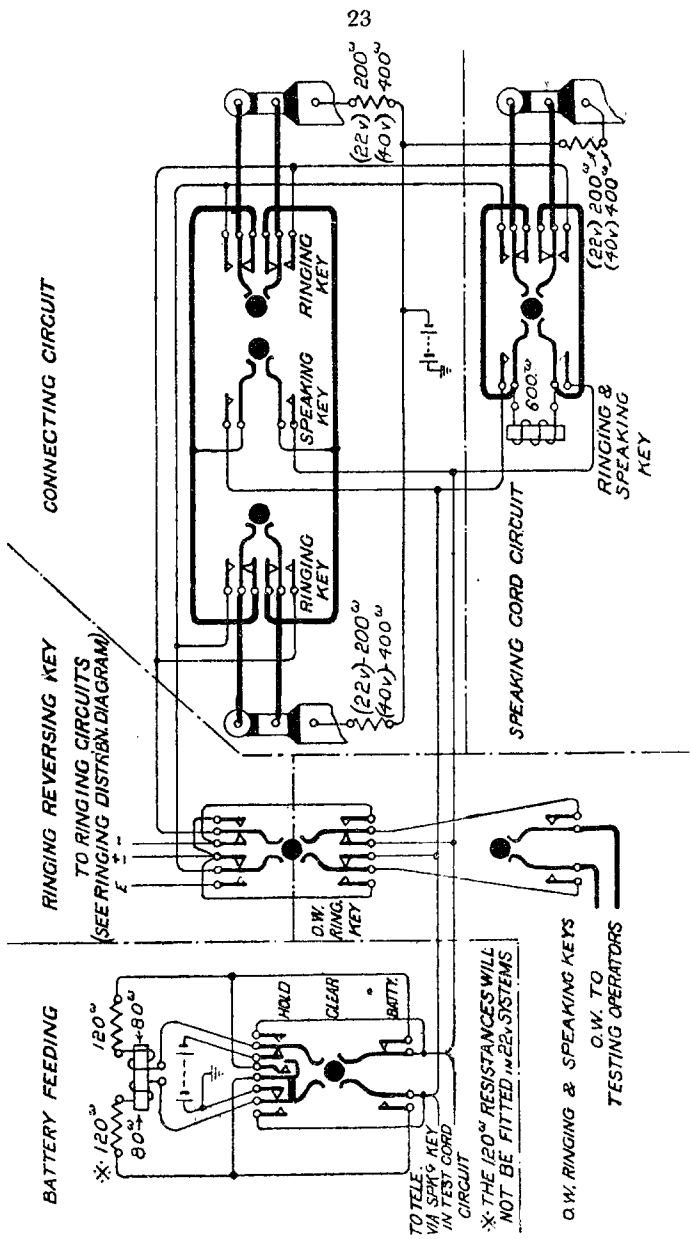

Fig. 10.
**Direct Exchange Line.**—This circuit, which terminates on subscribers' calling equipment at an "A" position, is an ordinary exchange connection and is used for miscellaneous incoming and outgoing calls. The "Speaking" cord circuit shown in Fig. 10 is used for operating this line.